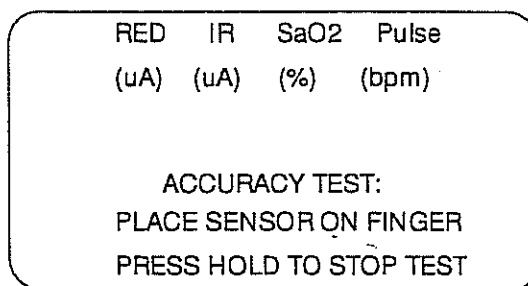

FIGURE 4-3
1. Select ACCURACY TEST from the SaO₂ Diagnostics Menu. A set of instructions is displayed on the LCD panel as shown in figure 4-3.